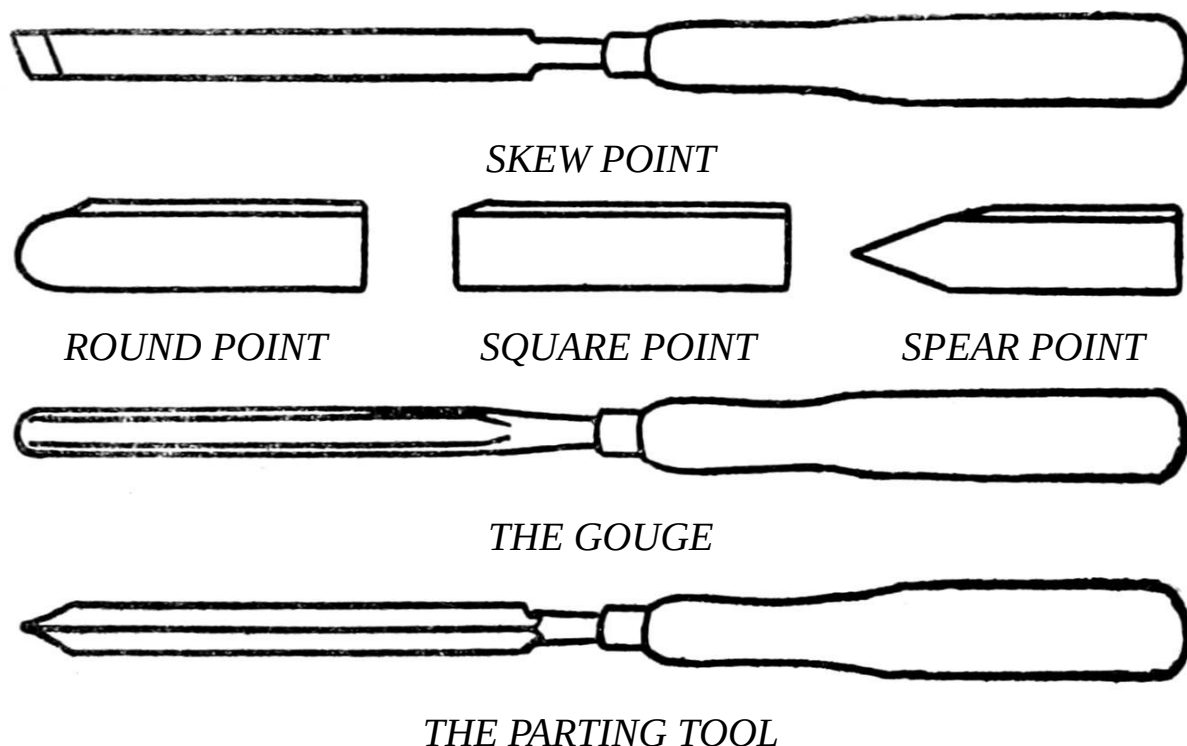

FIG. 18. A SET OF WOOD TURNING TOOLS
Turning Tools for Wood.—The tools used for turning wood^[14] are simply chisels and gouges. The chisels are made with four kinds of points, namely, (1) *skew point*; (2) *round point*; (3) *square point*, and (4) *spear point*, and these are shown in Fig. 18. These chisels can be bought in all sizes from ¼ inch to 1 inch wide.
Gouges also come in sizes from ¼ inch up to 1 inch, and a *parting tool*, which is used to cut off a turned piece and which is simply a V shaped chisel, can be had in ½, ⅝ and ¾ inch sizes. These turning tools are also shown in Fig. 18. You can buy them fitted with applewood handles and sharpened ready for use for about 50 cents apiece. You can buy them of hardware dealers or of Hammacher, Schlemmer and Co., Fourth Ave. and 13th Street, New York.